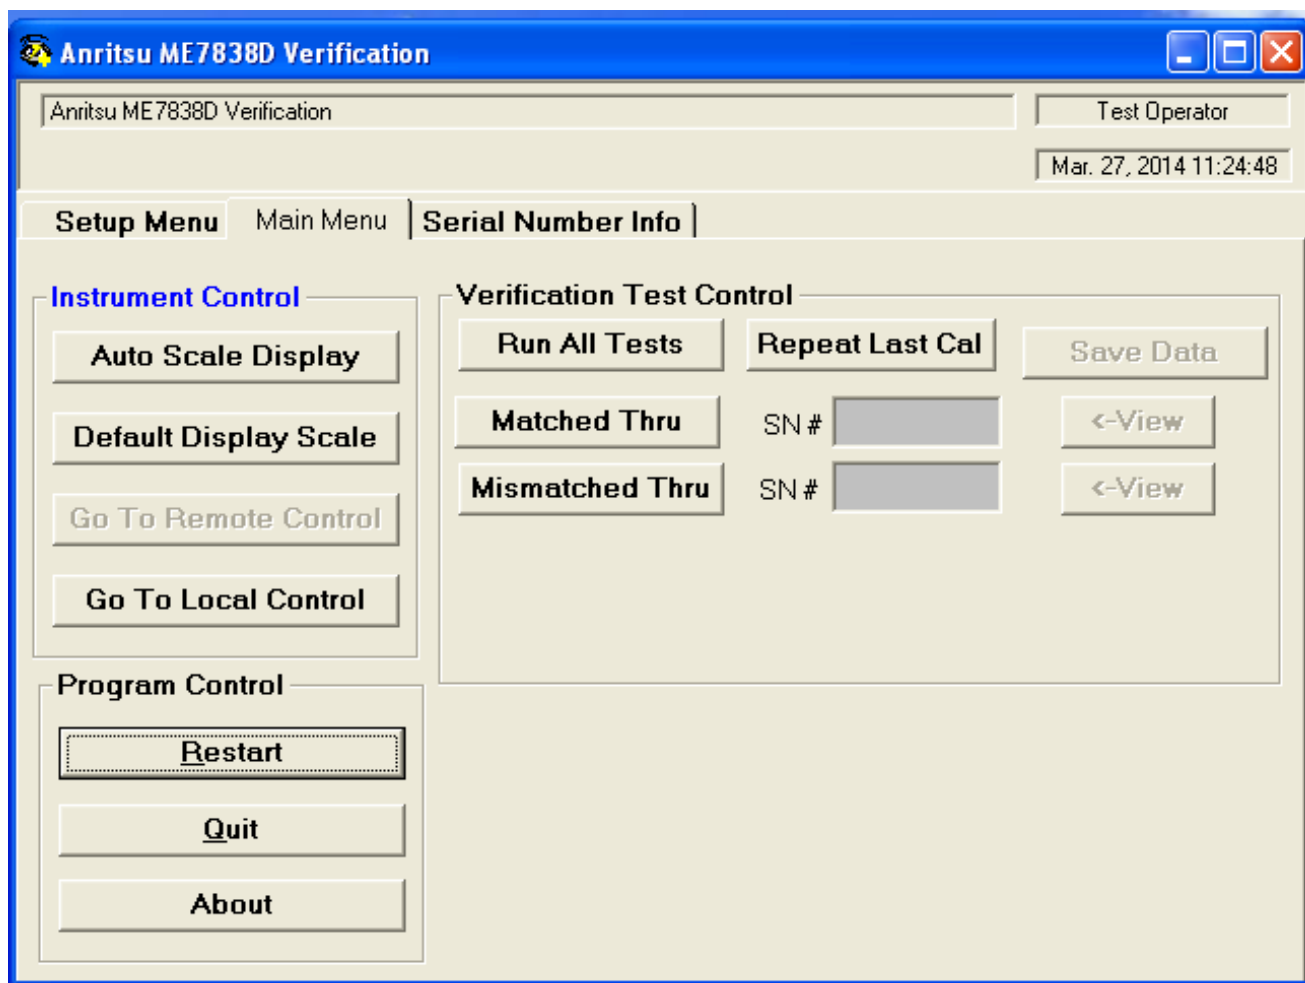

Figure 2-35. ME7838D Application Interface – Main Menu Tab
- The Main Menu tab display is described in the section immediately following and is shown below in Figure 2-35